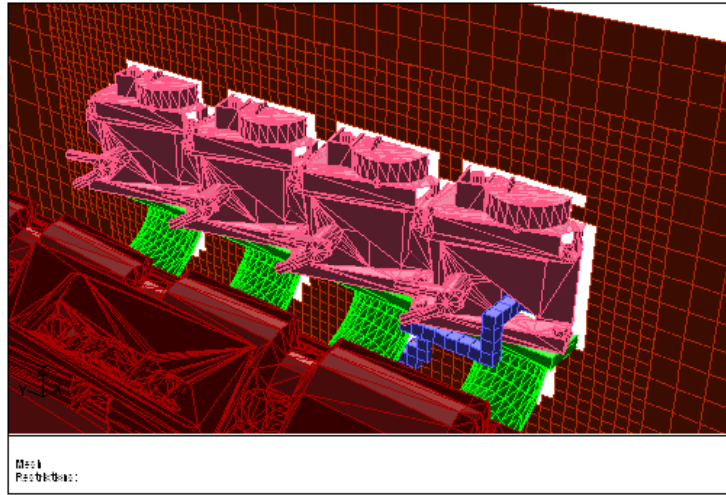

Figure 7.15: Display of Geometry with the Traced Path
- iii. Click Trace (Figure 7.15).
You may need to switch between Positive and Negative in the Pan Regions panel to obtain the display in Figure 7.15.